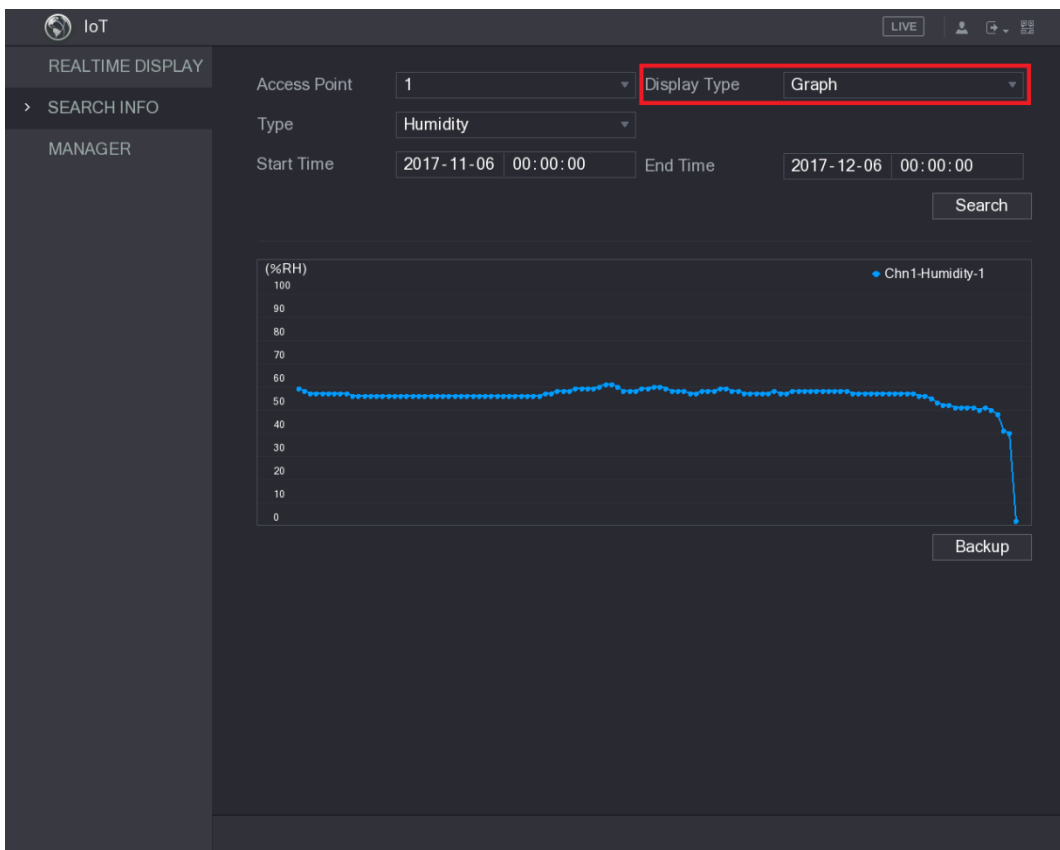

Figure 5-161
- For the data displayed in graph, see Figure 5-161.